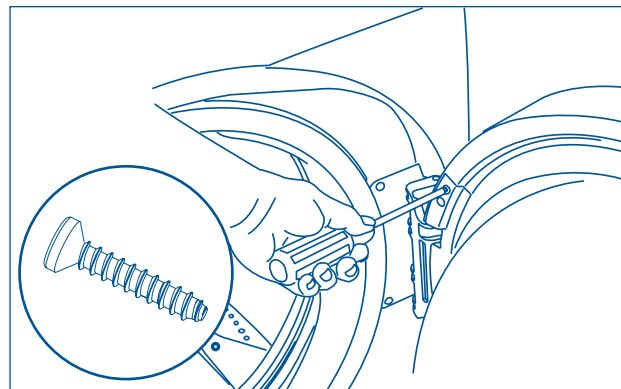

Figure 2-35.
3. Secure the door with 4 long, coarse-thread, counter-sunk screws. (See Figure 2-35)